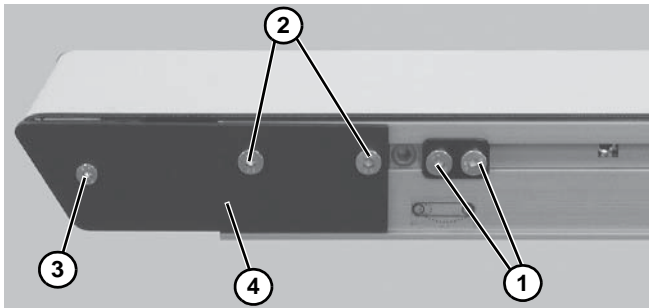

Figure 43
1. On both sides of conveyor, use a 4 mm hex-key wrench to loosen cam fastening screws (**Figure 43, item 1**) and slide cam assemblies toward the center of the conveyor.
2. On both sides of conveyor, use a 4 mm hex-key wrench to loosen head plate fastening screws (**Figure 43, item 2**) to remove belt tension. Then remove belt from end of conveyor.
3. On one side of conveyor, use a 3 mm and 4 mm hex-key wrench to remove head plate fastening screws (**Figure 43, item 3**) & (**Figure 43, item 2**) and remove head plate (**Figure 43, item 4**).
5. After replacing bearings, re-install head plate (**Figure 43, item 4**). Use a 3 mm hex-key wrench to tighten one (1) fastening screw (**Figure 43, item 3**) to 30 in-lb (3.4 Nm). Leave two (2) fastening screws (**Figure 43, item 2**) loose for belt tensioning.